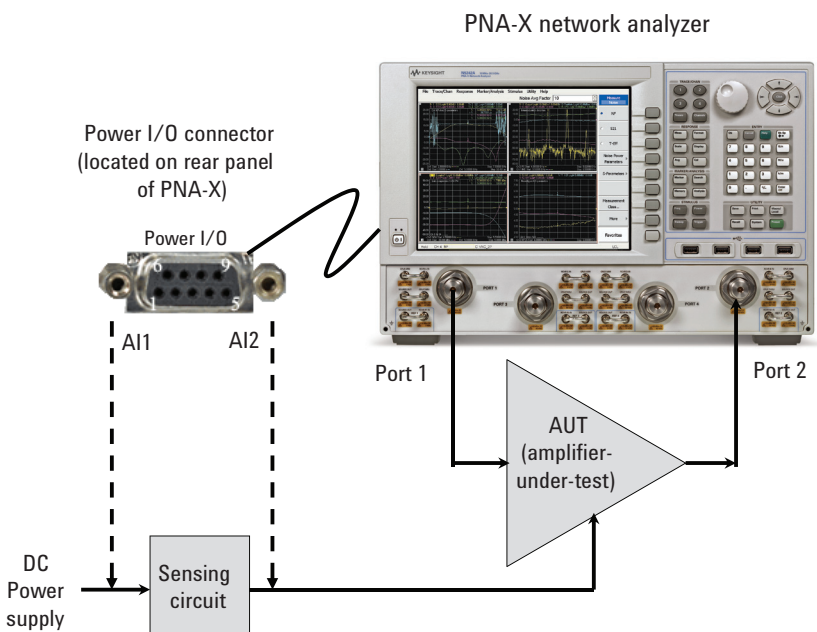

Figure 1. An example of a test setup for PAE measurements. (See Figure 5 for details on the power I/O connector and its pins.)
With the amplifier-under-test (AUT) connected to ports 1 and 2 for RF measurements, and to the sensing circuit and the **Power I/O** connector for DC measurements, voltages can be displayed on the PNA-X as AI1 and AI2 traces. Figure 1 shows an example of a test setup.
- **AI1** receiver measuring voltage at pin 7 (trace 5). Looking at Figure 1, AI1 provides the DC power supply reading. See Figure 5 for details on AI1 and pin 7.
- **AI2** receiver measuring voltage at pin 8 (trace 6). Looking at Figure 1, this provides the reading of the DC power being supplied to the amplifier. Using AI1 and AI2 readings, voltage drop across the sensing circuit can be calculated. See Figure 5 for details on AI2 and pin 8.
With AUT connected as shown in Figure 1,